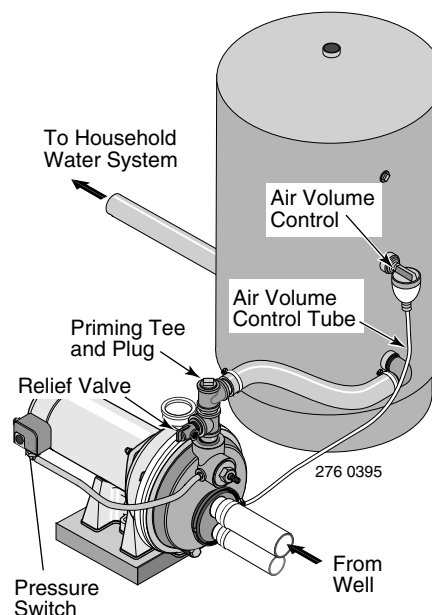

Figure 13: Standard Tank Connections
STANDARD TANK CONNECTION (Figure 13)
4. Remove the 1/8" NPT pipe plug from the pump Air Volume Control (AVC) port (see Figure 13). Run tubing from the pump's AVC port to the port on the AVC mounted on the tank. See instructions provided with tank and AVC for details.